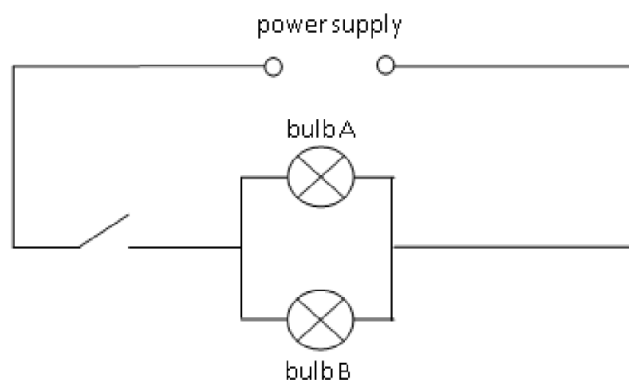

Fig. 1.1
- 1 Fig. 1.1 below shows two bulbs are connected in parallel with a 250 V power supply. The rated power is indicated beside each bulb.
**(c)** Explain why the resistance of A and B are lower when connected in this circuit (compared to Fig. 1.1).